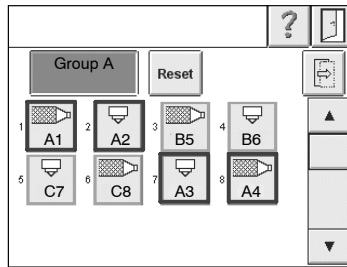

Fig. 4-44 V31
2. Mark channels that are to be included in the group by touching the respective channel key. In Fig. 4-44 : Channel 1, 2, 7 and 8. The frame around the key is shown in the color of the group key. The channels are counted within the group, and the consecutive number (in this case A1 to A4) appears below the channel symbol.